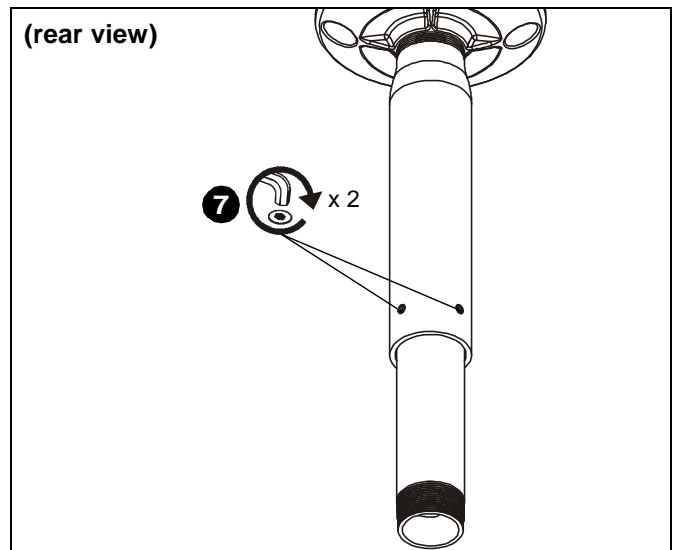

Figure 6
7. Tighten set screws on back of pipe using 5/32" key (E). (See Figure 6)